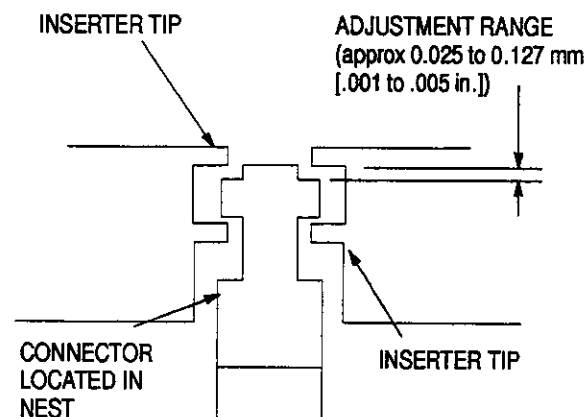

Figure 4
4. Manually extend the inserter tips until they are near, but not inserted into, the contacts. The inserter tips should align with the contacts as shown in Figure 4. If not, the mandrel height must be adjusted.